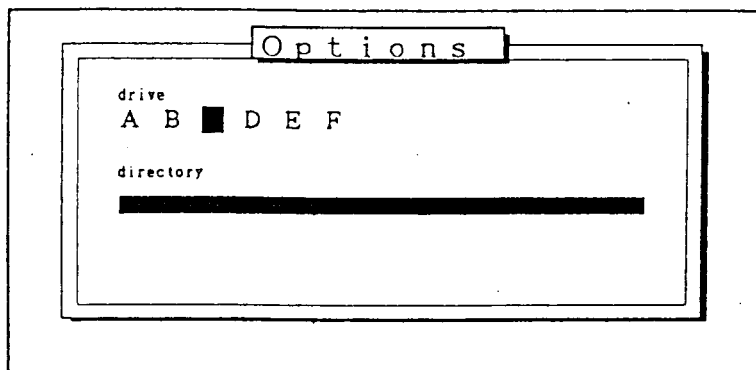

Fig. 22: OPTIONS Display Screen
- 2) "OPTIONS" display screen appears. (See Fig. 22)